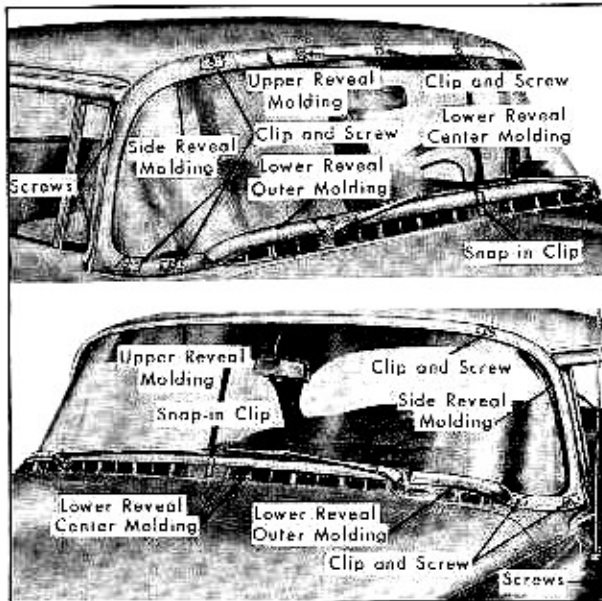

Fig. 3-14 Windshield Reveal Molding Attaching Points
4. Carefully pry the center lower reveal molding, Fig. 3-14, with clip, away from rubber channel.